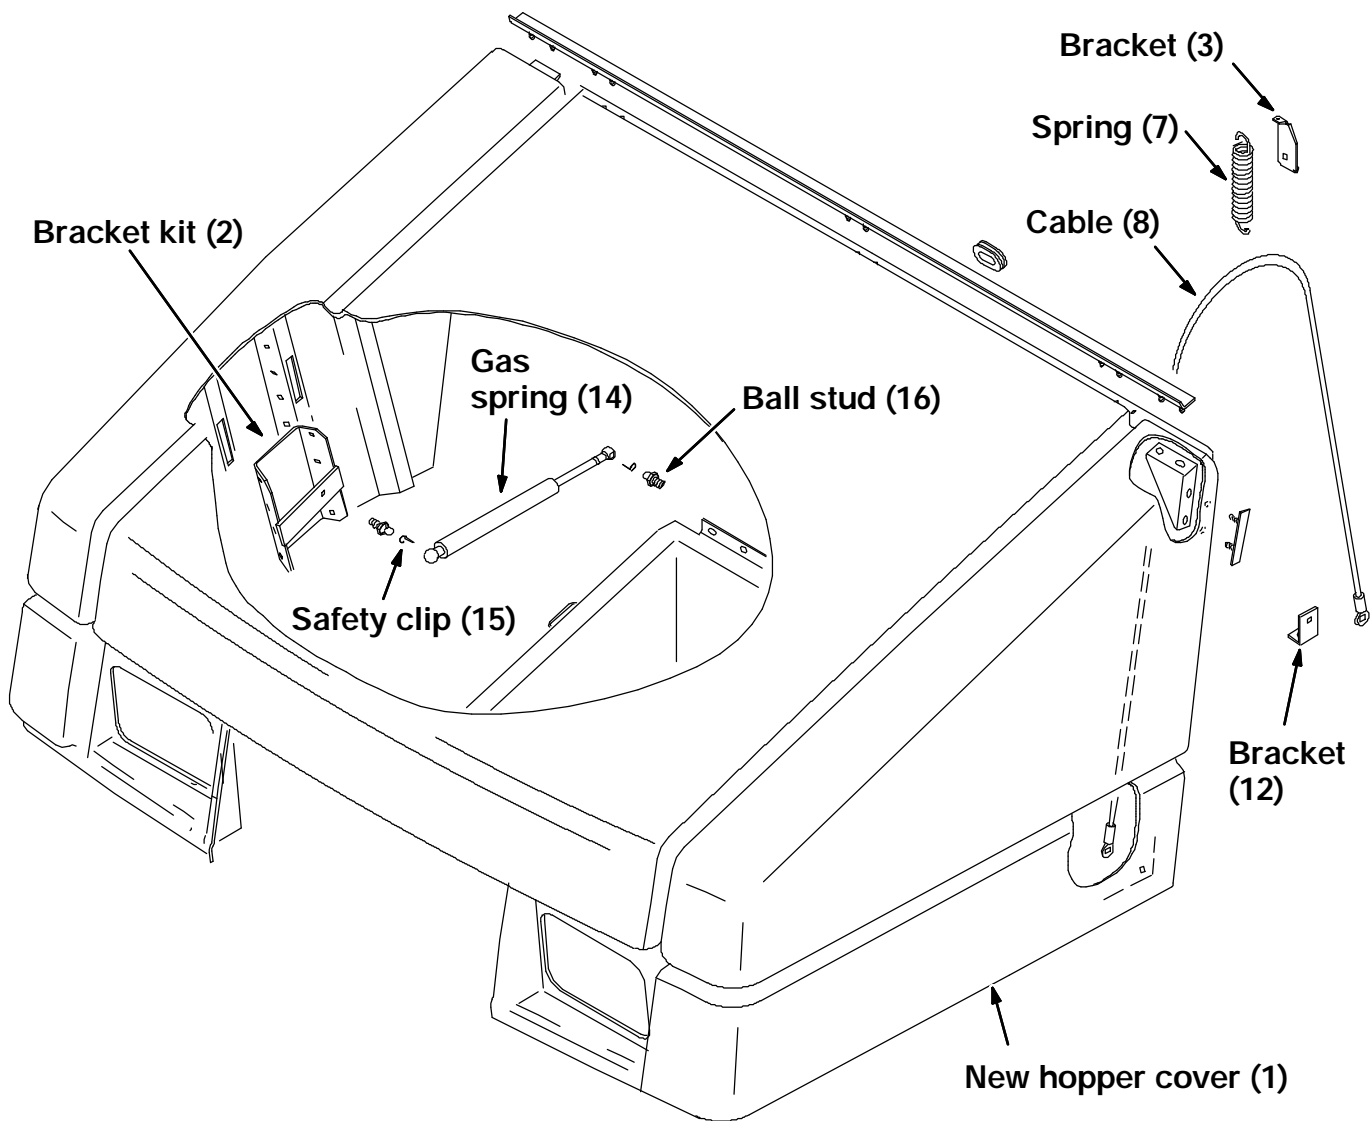
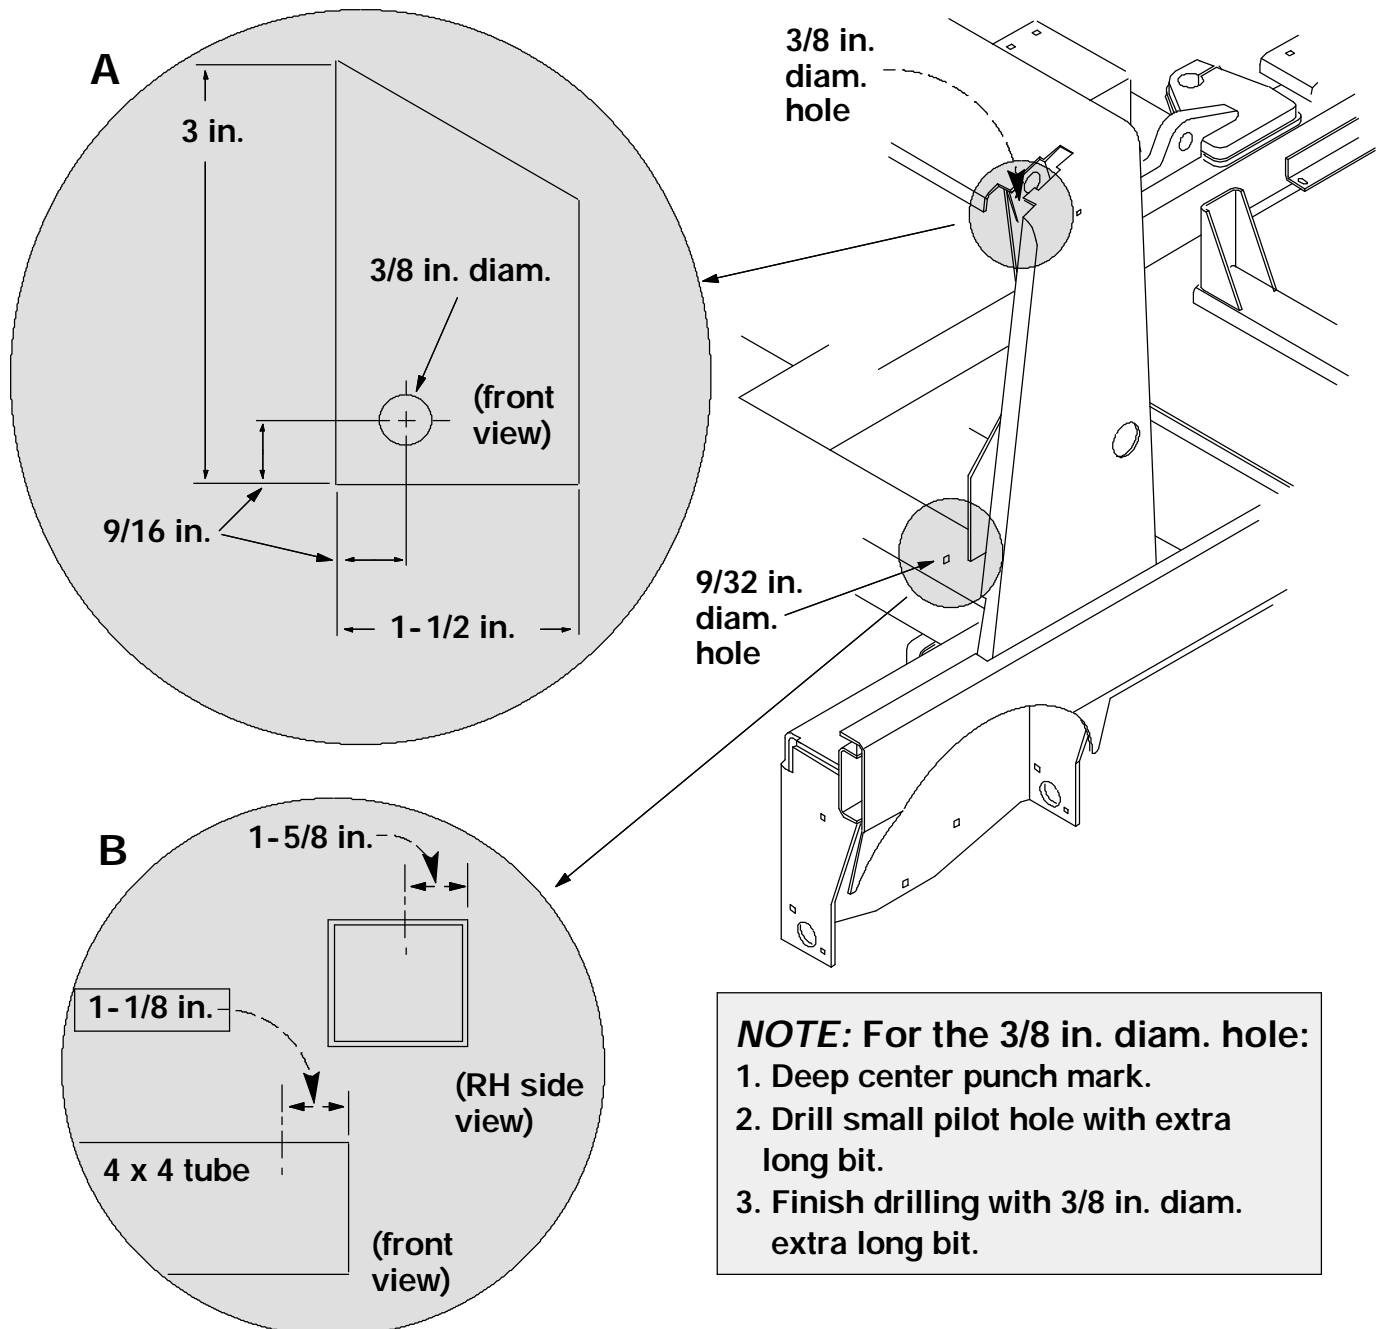

FIG. 1 - RH Hopper Cover Assembly
FIG. 2 - Safety Cable Mount Hole Locations
(Refer to FIG. 1 and 2)
2. Prepare the new hopper cover for installation. Use **IB 3657** from spring bracket kit # 70182 for proper hopper cover preparation instructions. (Refer to Fig. 1)
3. Install the gas spring ball studs (16) on the spring brackets inside the new cover. (Refer to Fig. 1)
4. Install the new re-worked hopper cover on the hopper. Be careful not to damage the cover when setting on the hopper. (Refer to Fig. 1)
6. Open the cover and install the two new gas springs (14) and safety clips (15). Close the hopper cover. (Refer to Fig. 1)
8. Install the hopper cover safety cable. See TO INSTALL SAFETY CABLE instructions. (Refer to Fig. 1 and 2)
2. Drill a 3/8 in. diameter hole (**see note in fig. 2**) in the top left corner of the lift arm lintel using the dimensions in Fig. 1 (A). (Refer to Fig. 2)
3. Drill a 9/32 in. diameter hole in the top of the machine frame 4 x 4 tube using the dimensions in Fig. 1 (B). (Refer to Fig. 2)
4. Install the cable bracket (12) in the hole that was drilled in the frame tube in step 2. Use the thread rolling screw (13). Tighten to 15 - 20 ft lb. (Refer to Fig. 1 and 2)
5. Connect one end of the safety cable (8) to the cable bracket (12). Use one hex screw (9), flat washer (10), and nyloc nut (11). Tighten to 14 - 18 ft lb. (Refer to Fig. 1 and 2)
6. Connect the other end of the safety cable through the hole and bracket in the lower LH corner of the hopper cover (1). Use one hex screw (9), washer (10), and nyloc nut (11). Tighten to 6 - 8 ft lb. (Refer to Fig. 1 and 2)
7. Install the tension spring bracket (3) in the hole that was drilled in the frame tube in step 3. Use one hex screw (4), flat washer (5), and flange nut (6). Tighten to 14 - 18 ft lb. (Refer to Fig. 1 and 2)
NOTE: The tension spring bracket is installed with the spring hole facing up. (Refer to Fig. 1)
8. Install one end of the tension spring (7) in the hole on the spring bracket (3) and the other end hooked around the safety cable (8). (Refer to Fig. 1)
(Refer to FIG. 2, 3, and 4)
2. Drill a 3/8 in. diameter hole in the top right corner of the lift arm lintel using the dimensions in Fig. 1 (A) on the opposite side. (Refer to Fig. 2)
3. Drill a 9/32 in. diameter hole in the top of the machine frame 4 x 4 tube using the dimensions in Fig. 1 (B) on the opposite side. (Refer to Fig. 2)
4. Install the cable bracket (12) in the hole that was drilled in the frame tube in step 2. Use the thread rolling screw (13). Tighten to 15 - 20 ft lb. (Refer to Fig. 2)
5. Connect one end of the safety cable (8) to the cable bracket (12). Use one hex screw (9), flat washer (10), and nyloc nut (11). Tighten to 14 - 18 ft lb. (Refer to Fig. 2)
6. The cable bracket in the lower left corner of the new cover must be moved to the right side. See; TO RELOCATE SAFETY CABLE BRACKET ON LH MACHINE instructions. (Refer to Fig. 2, 3, and 4)
7. Connect the other end of the safety cable through the hole and bracket in the lower RH corner of the hopper cover (1). Use one hex screw (9), washer (10), and nyloc nut (11). Tighten to 6 - 8 ft lb. (Refer to Fig. 2, 3, and 4)